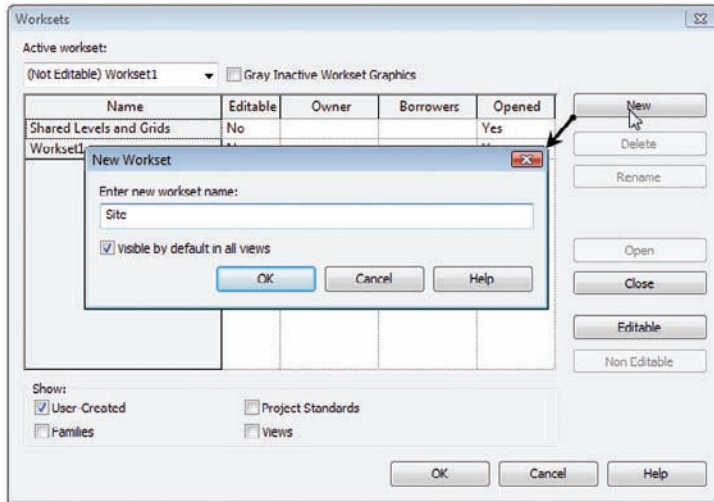

FIGURE 22.9 Creating a new workset
2. In the Worksets dialog, click the New button, as shown in Figure 22.9.